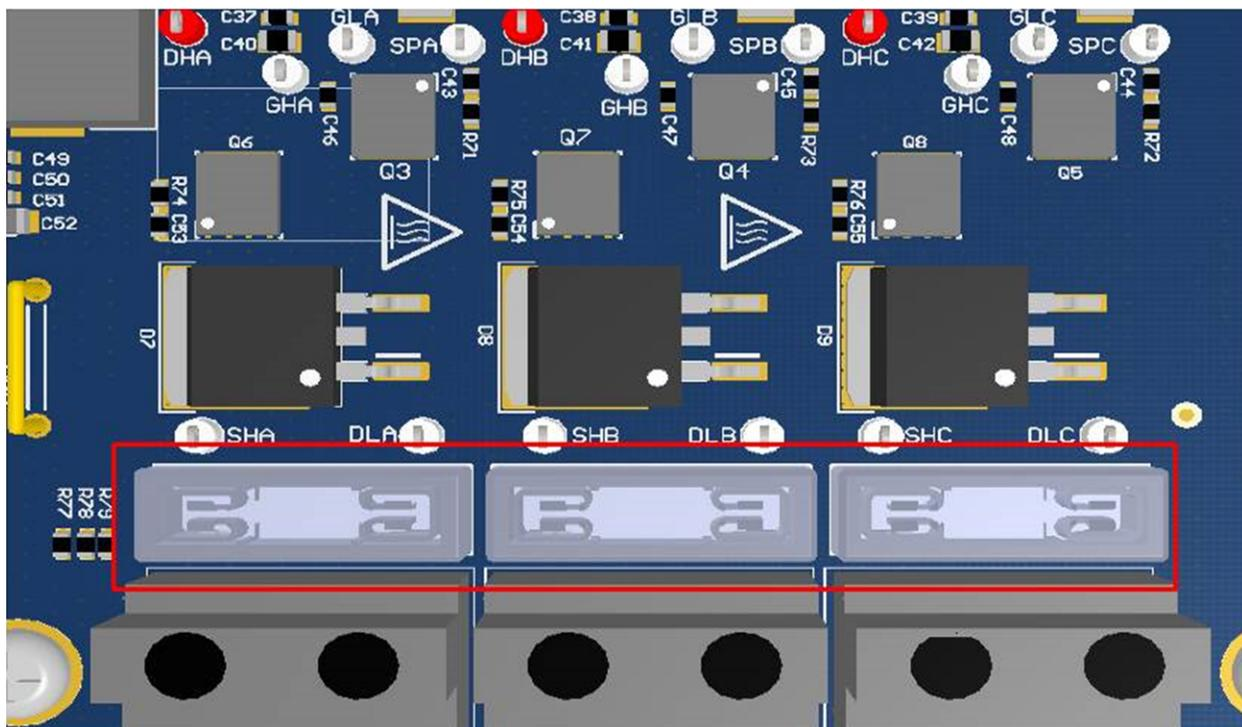

Figure 5. Remove Jumper Connectors
- Step 2. Remove the connector between the SHx and DLx output connections, F5, F6, F7, or all three (see Figure 5).